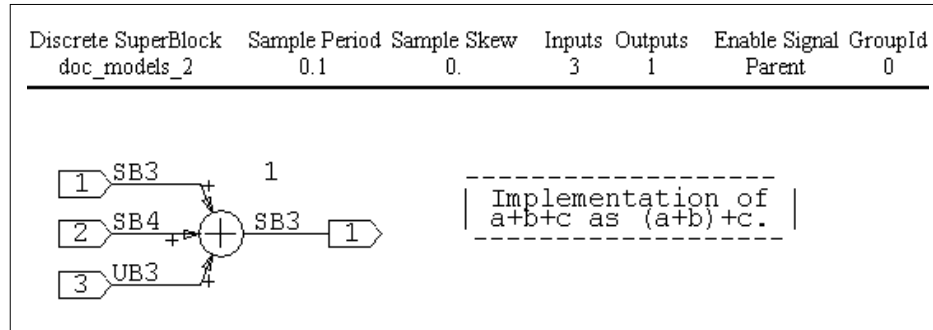

FIGURE 15-16 Adding Three Operands
To provide a consistent answer to this question, SystemBuild algebraic blocks are organized such that the operation order is the same as the order that the connection editor assigns to the input pins. Thus in the Summing Junction example the signal connected to input pin (1) is added to the signal connected to pin (2) first, and then the result is summed with the signal that is connected to pin (3) (see Figure 15-16). This can have a profound impact on the final operation result as it is possible to enhance the precision or even avoid dealing with overflow as in (1) under Example 15-12 below,
1. Now assume that only one summation block is used to realize the sum. Then, the equivalent implementation to that of (1) would be as shown in Figure 15-16 on page 15-31.